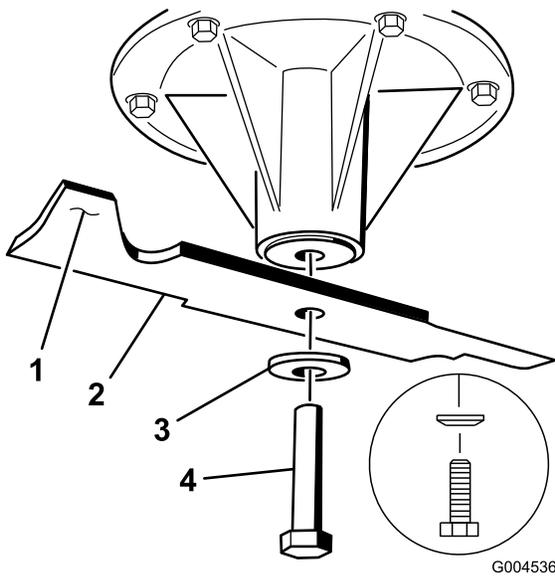

Figure 94
Note: If the blade stays in a horizontal position, the blade is balanced and can be used. If the blade is not balanced, file some metal off the end of the sail area only (Figure 94). Repeat this procedure until the blade is balanced.
1. Install the blade onto the spindle shaft (Figure 94).
Note: Install the spring disk cone toward the bolt head (Figure 94). Torque the blade bolt to 115 to 150 N-m (85 to 110 ft-lb).